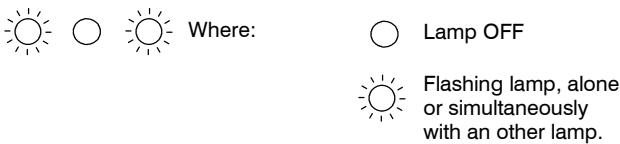

Fig. 19
- 7 Keep pressed the reset button C for about 5 seconds until the lock-out signal lamp D is switched OFF. The boiler runs in c.h. mode and the lamps E give the indication as in Fig. 19.